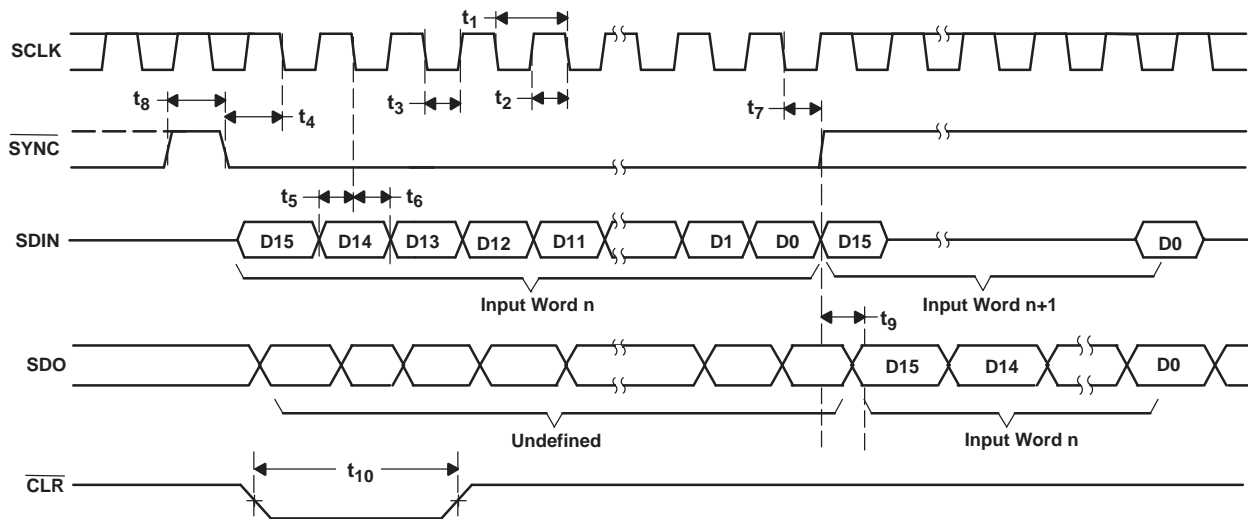

Figure 1. Serial Write Operation Timing Diagram
(1) All input signals are specified with  $t_{\text{R}} = t_{\text{F}} = 1\text{ns}$  (10% to 90% of  $V_{\text{DD}}$ ) and timed from a voltage level of  $(V_{\text{IL}} + V_{\text{IH}})/2$ .
(2) See Figure 1, Serial Write Operation timing diagram.
(3) Maximum SCLK frequency is 50MHz at  $V_{\text{DD}} = 2.7\text{V}$  to  $5.5\text{V}$ .
(4) SCLK falling edge to  $\overline{\text{SYNC}}$  rising edge time should not exceed  $(t_1 - 10\text{ns})$  in order to latch the correct data.